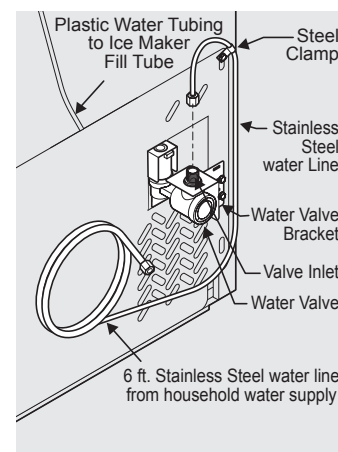

Figure 2
5. **If you use stainless steel tubing** - The nut and ferrule are already assembled on the tubing. Slide compression nut onto valve inlet and finger tighten compression nut onto valve. Tighten another half turn with a wrench; DO NOT overtighten. See Figure 2.